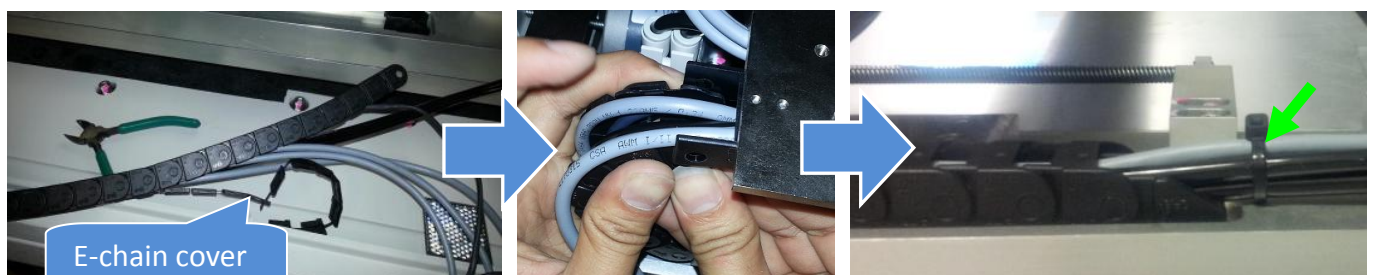

Figure 35 Cable Routing (AWA E-Chain)
37. Assemble E-chain Top cover at AWA E-Chain. Next, reconnect the E-Chain Top Joint. Secure the AWA Cable with cable tie as below Figure 35